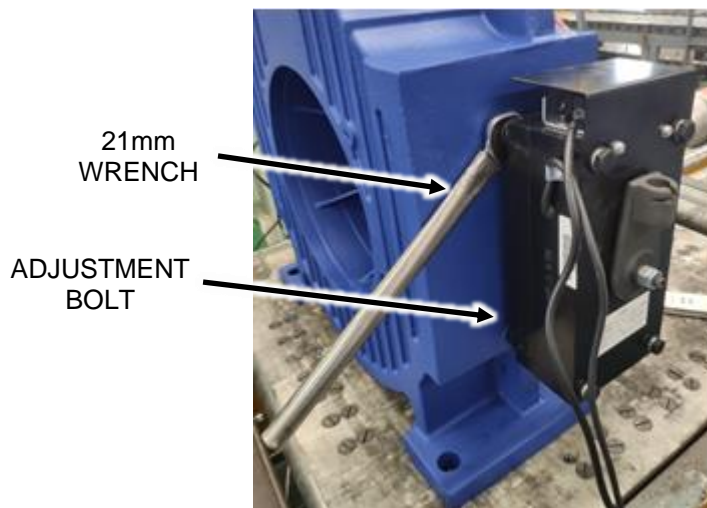

Figure 11
2. Use a 21 mm wrench, rotate the adjustment bolt corresponding to the loosened fixed bolt in small increments, less than $\frac{1}{2}$ a flat of the hex head, counterclockwise. See Figure 11.